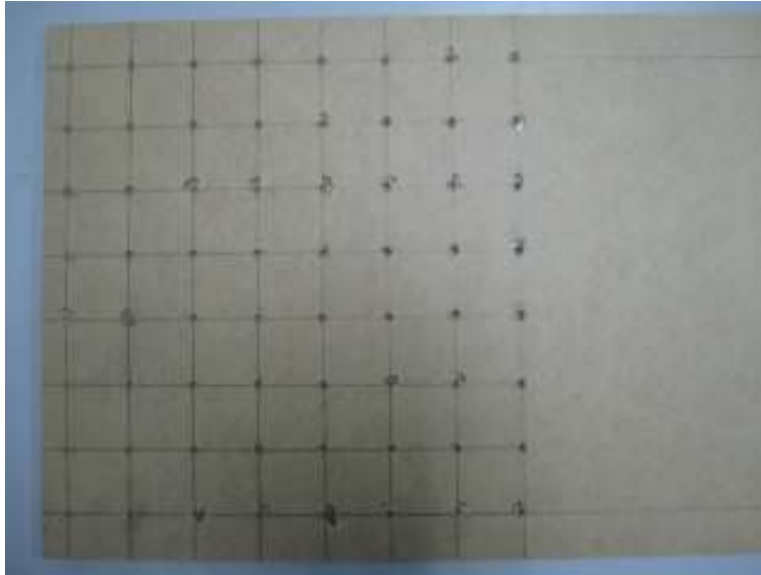

Figure 11: The ready mold
9. Once all holes have been drilled, the mold is considered done as shown by the Figure 11 below.